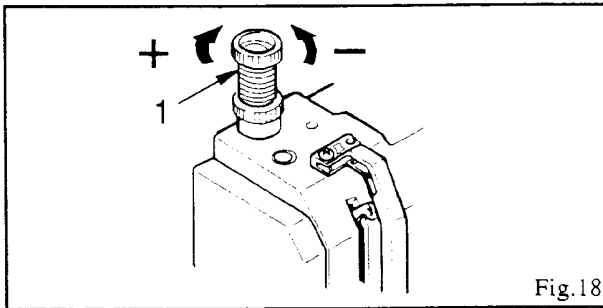

Fig.18
To regulate the presser foot pressure, turn thumb nut (1), Fig. 18, toward left or right as required.